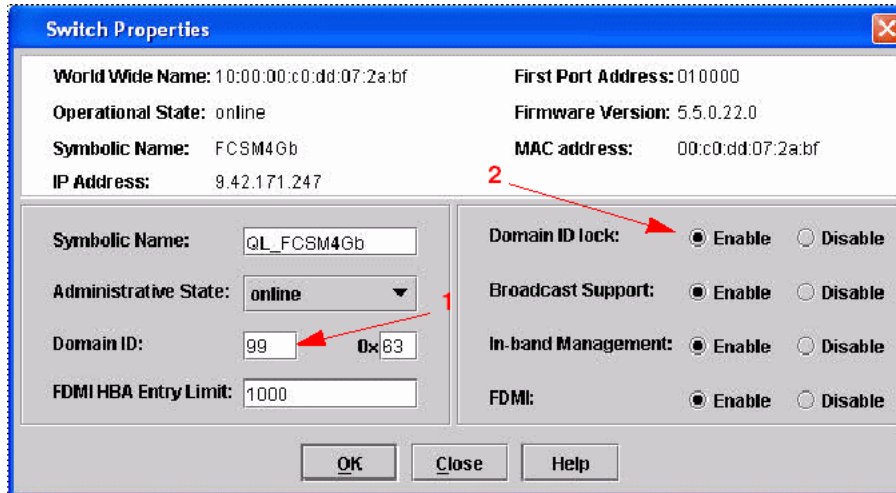

Figure 7-15 Switch Properties window
- From the Switch Properties dialog (Figure 7-15 on page 183), enter a symbolic name for your switch. The Unique Domain ID ranges from 97-127 (1). Click the **Enable** radio button next to Domain ID lock (2). In our example, we selected 99 for the DID. Click **OK** to continue.